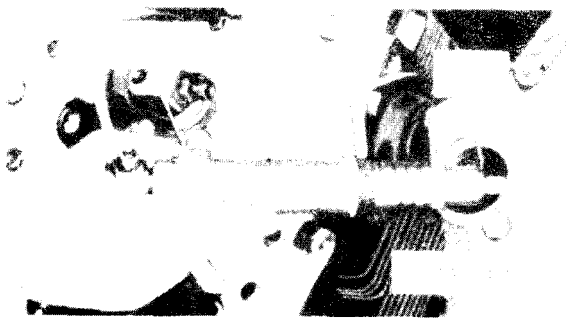

Figure 3-62. Removing or installing injector nozzle and holder assembly.
e. Loosen and remove fuel injector nozzles and holder assemblies as shown in fig. 2 85. Remove and discard flat washers (gasket) (fig. 3-62) and preformed packing.